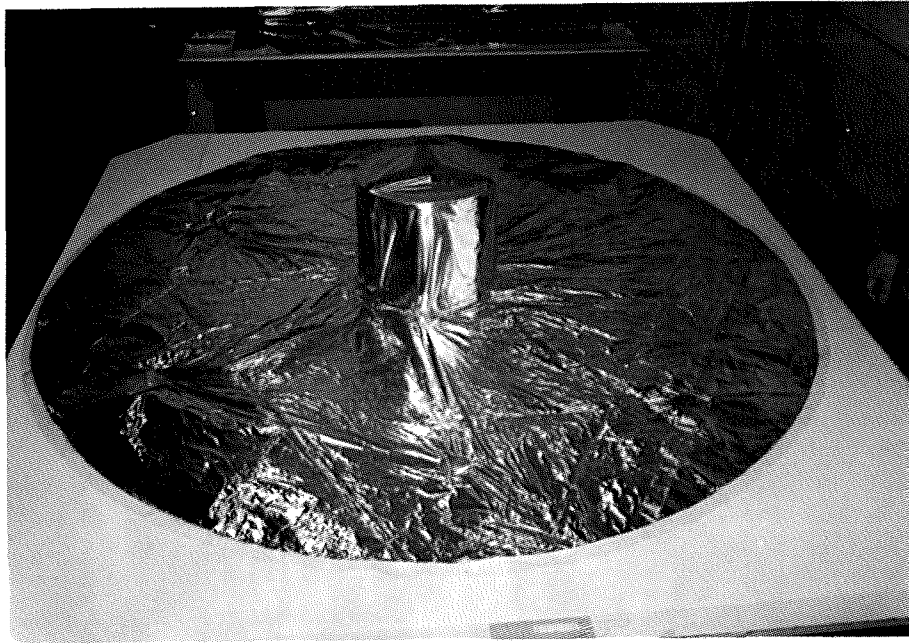

FIG. 1
**STEP 1.** Lay out shroud in fully unfolded position. Straighten skirt by pulling in a radial direction on the bottom layer (clear Mylar) of material around the complete circumference, see Figure 1.